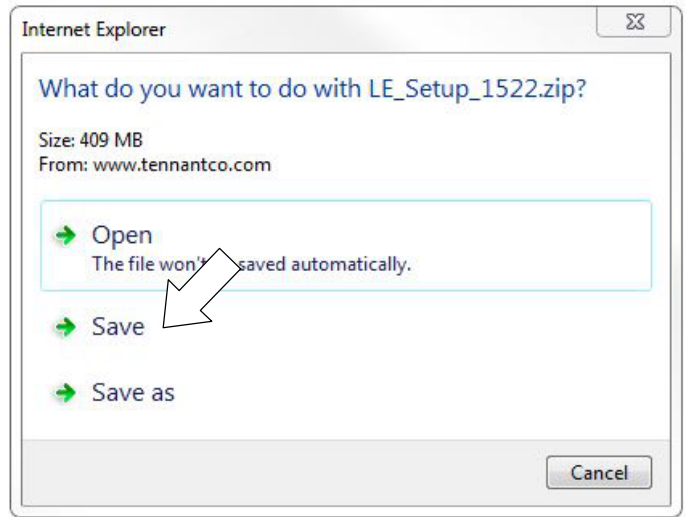

Fig. 30
5. To download the service software continue to click as instructed then click the Save button (Figure 30).